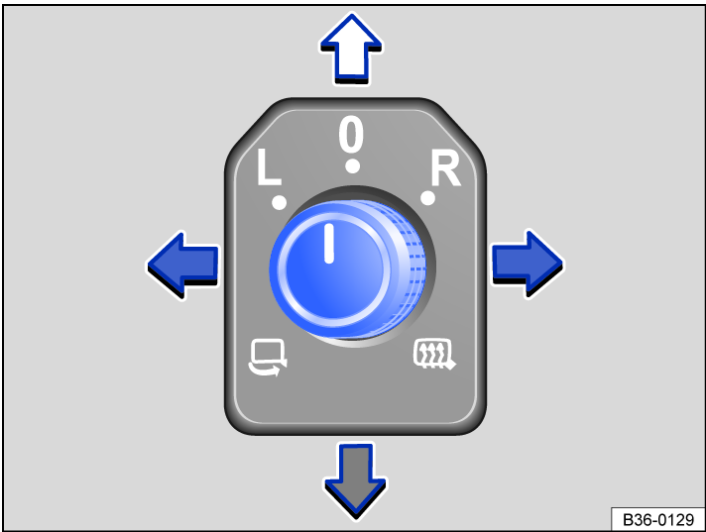

Fig. 1 In the driver door: rotary knob for the exterior mirrors.
- Turn the rotary knob in the driver door to the desired symbol→ *Fig. 1*.